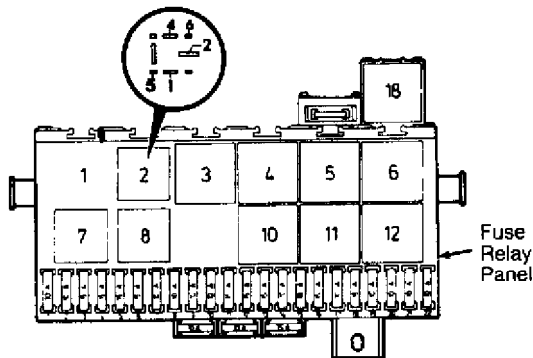

Fig. 6: Cabriolet Fuse/Relay Panel (Golf & Jetta Are Similar)
1) Ensure fuel pump fuse (No. 5) is not blown. If okay, remove fuel pump relay (No. 2) from fuse/relay panel See Fig. 6. With ignition on, check for battery voltage between the following locations:
1) Ensure fuel pump fuse is not blown. If okay, remove fuel pump relay from fuse/relay panel See Fig. 6. Remove hall sender primary connector at ignition coil. With ignition on, check for battery voltage between the following locations: